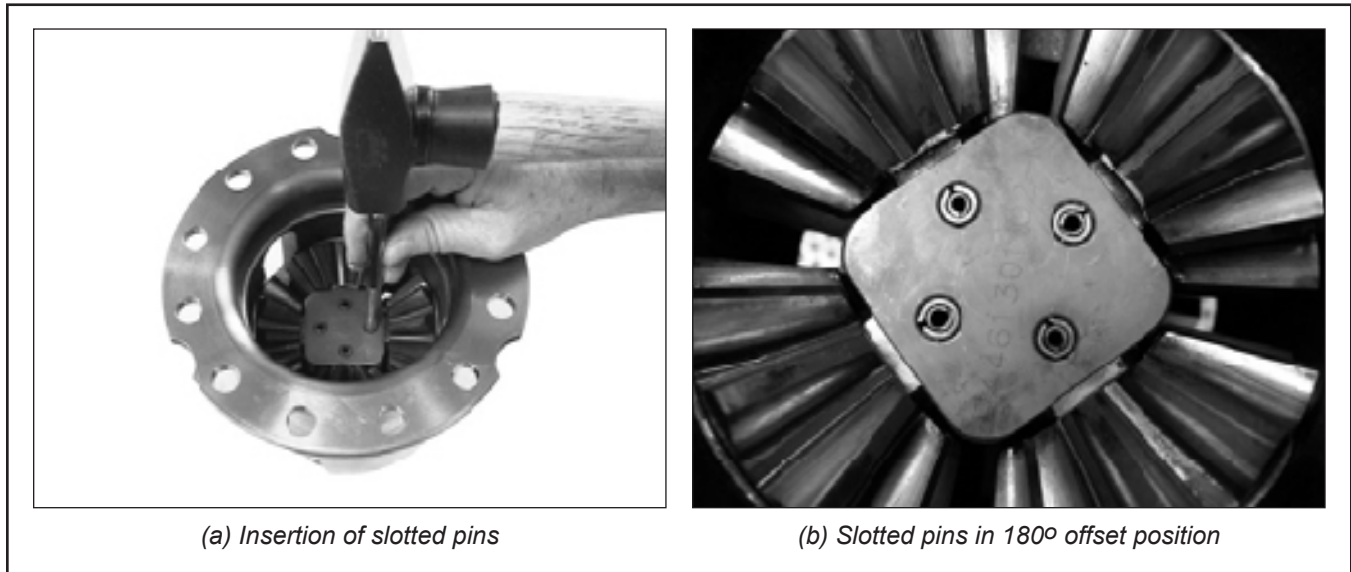

Figure 16 - Slotted Pins
2.43. Force the slotted pins (part # N8893152 and N8893153) into the cross joints and differential pins. Ensure the openings of the slotted pins are offset in a 180° position to each other. See Figure 16.